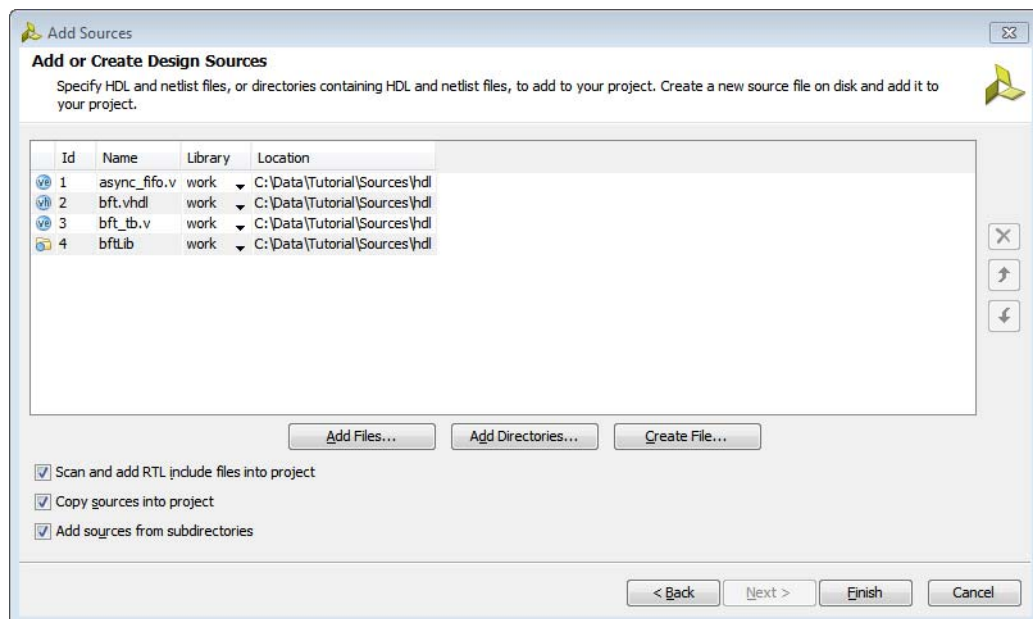

Figure 3-2: Add Sources Wizard—Add or Create Design Sources Page
3. In the Add or Create Design Sources page (Figure 3-2), click **Create File**.
3. In the Add or Create Design Sources page (Figure 3-2), set the following options, and click **Finish**.